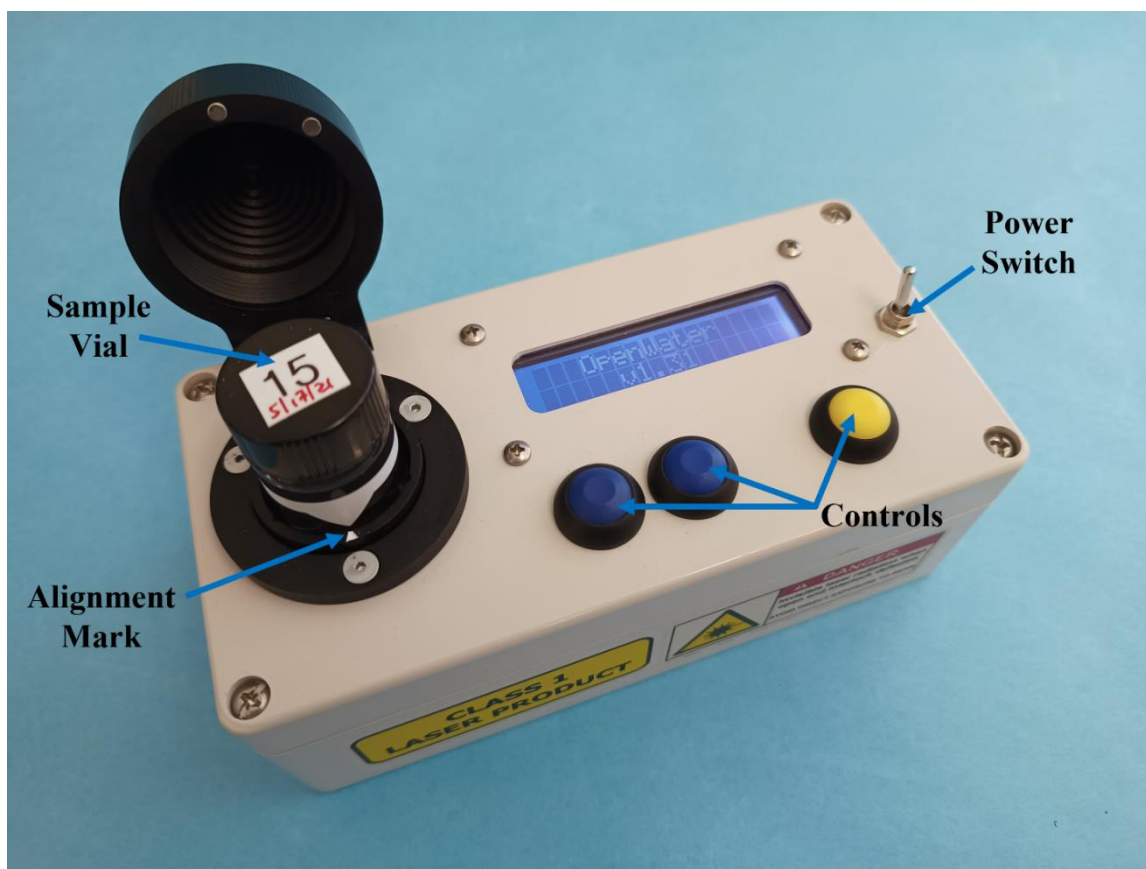

Figure 1. OpenWater Open-Source Turbidity Meter (3rd-Generation Design)
These instructions describe how to build the third-generation version of a research quality, relatively low-cost, open-source instrument for measurement of water turbidity in environmental samples. Refer to the R&D Report for a complete description of the design and validation of the instrument. Operating instructions are provided in the SOP. The completed device is shown in Figure 1.
2. Place the Class 1 Laser label (Figure 13, left) on the outside of the case. Locate it on the left side of the front sidewall of the case (Figure 1).
3. Place the Danger label (Figure 13, center) on the outside of the case. Locate it on the right side of the front sidewall of the case (Figure 1).